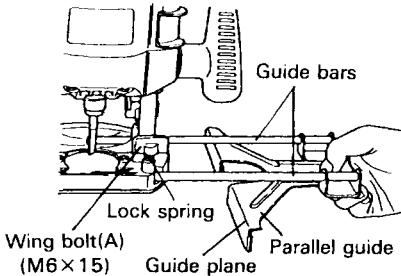

Fig. 11
- (2) Parallel Guide (Model M8V, M8) :
Use the parallel guide for chamfering and groove cutting along the materials side. First of all, as shown in Fig.11, attach the two wing bolts(A) (M6× 15) and the two lock springs to the screw holes on the top side of the base. Insert the guide bar in the hole on the base and adjust the distance from the bit to the guide plane. Tighten the two wing bolts (A) (M6×15) to secure the parallel guide.